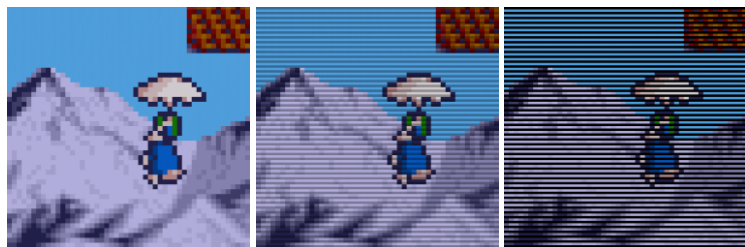

Figure 6: Emulate a CRT look with the **Scanline** (10) parameter
The parameter **Scanlines** (10) sets the intensity of so called scanlines as shown in Figure 6. Scanlines emulate the appearance of a progressive image when displayed on a CRT (cathode ray tube). Note, scanlines are not shown in interlace modes.